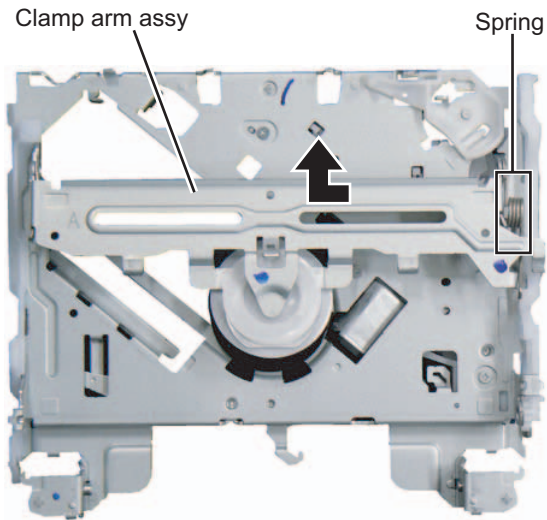

Fig.8
3.2.5 Removing the Clamp arm assy (See Fig.8)